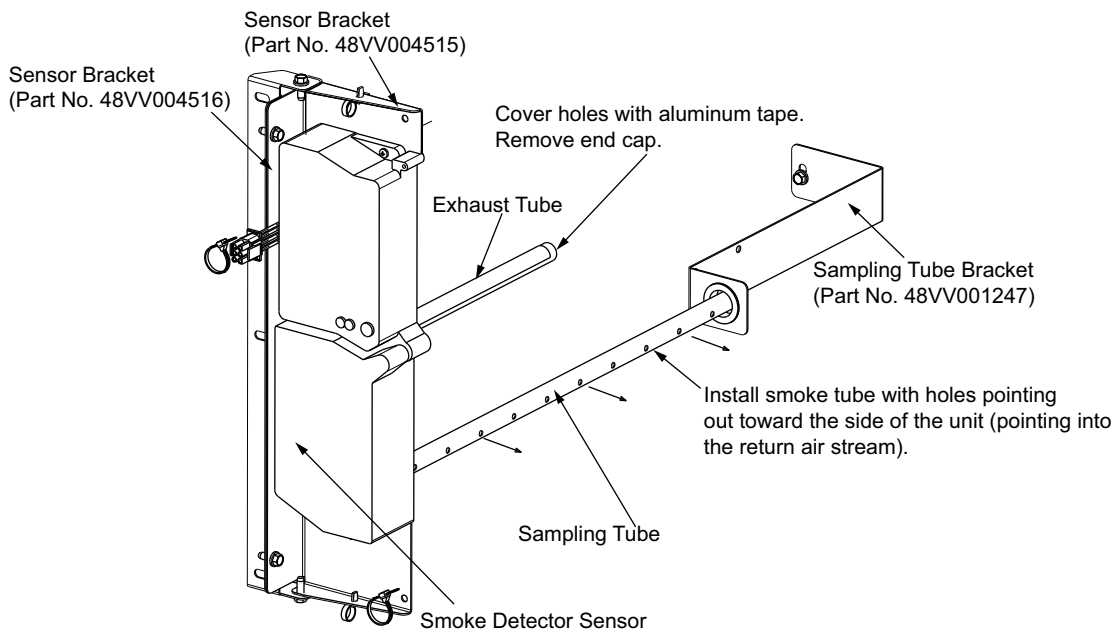

Fig. 15 — Smoke Detector Bracket Assembly (Compact Chassis with Horizontal Return)
8. Insert the smoke detector sensor assembly into the openings in the mounting bracket referenced in Fig. 15.
11. Remove the end cap from the exhaust tube supplied with the accessory. Cover the exhaust tube holes with foil tape as required. Insert the exhaust tube into the smoke detector sensor module to allow airflow through the sensor. See Fig. 15 for end cap location and bracket assembly.